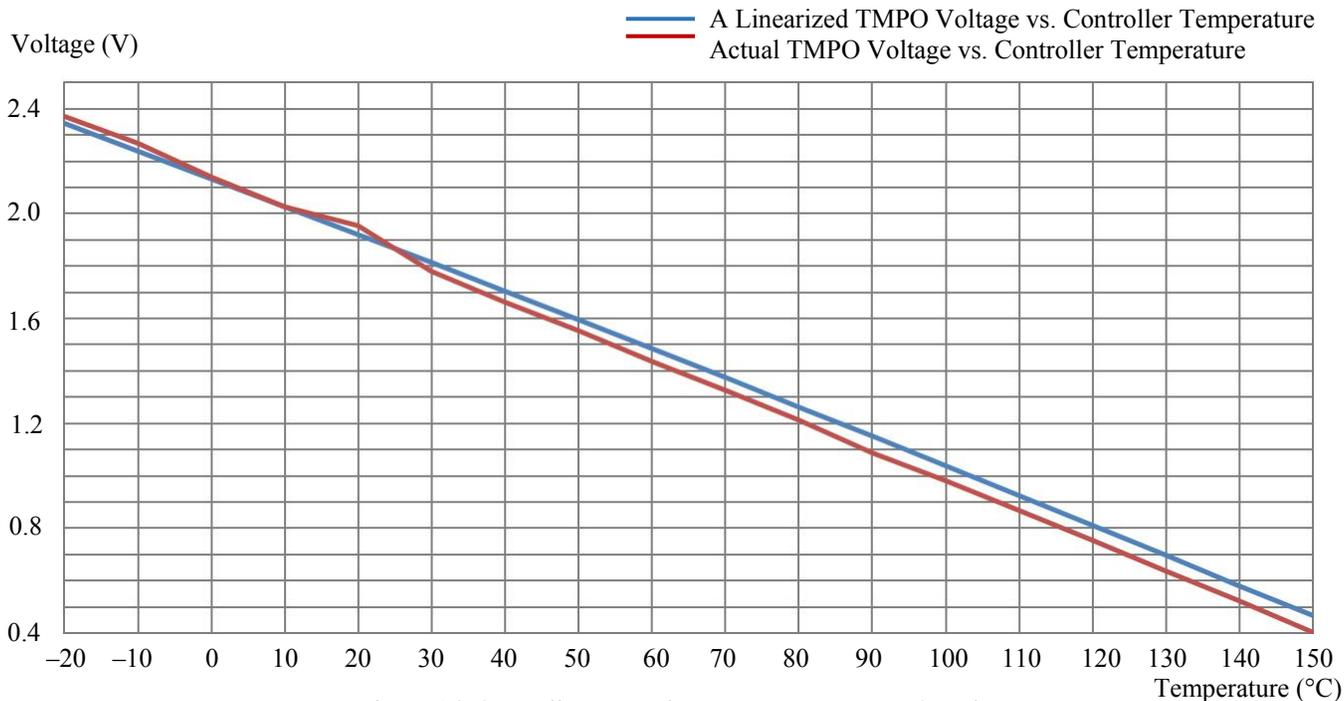

Figure 16. Controller Internal Temperature vs. TMPO Voltage
Within the most commonly used temperature range of between  $0^\circ C$  to  $100^\circ C$ , the maximum error occurs at about 1.5V, at which the temperature error between the calculated data by using the formula (1) and the approximated data obtained by using the linear equation (2) is about  $0.4^\circ C$ , with the linear data being a little lower. The curves of the 2 sets of the data are plotted in Figure 16.